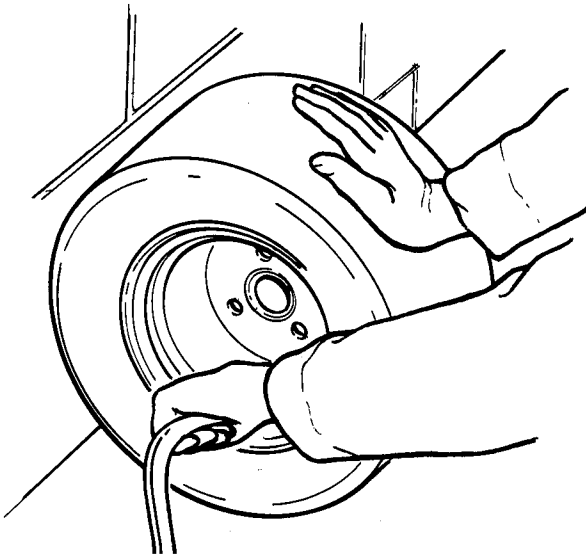

Figure 4 - Tire Removal and Installation
2. TIRES (Figure 4)
- c. If tire machine is unavailable, loosen both tire beads by applying pressure to tire walls, Step I, Figure 4.
- f. With valve stem side up, carefully start upper bead over edge of wheel rim with tire tool, Step II, Figure 4.
- g. When top bead is free of rim, shift lower bead into rim well on one side of wheel and insert tire tool on opposite side. Pry lower bead over rim flange, Step III, Figure 4.
- f. Place tire upright against wall and push against tire on side opposite wall, Figure 4. This three point contact will tend to bring bead out in contact with rim so that internal pressure is formed and beads snap into place when air is applied through valve stem.